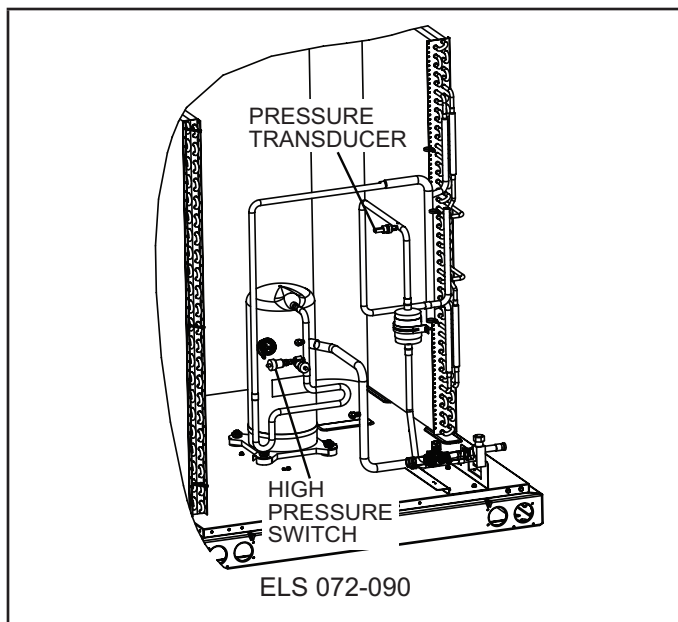

FIGURE 2. Pressure Transducer / Pressure Switch Location
- 8 - Install the pressure transducer (ICM380) to the valve core of the valve depressor tees on the liquid line. Refer to figure 2.